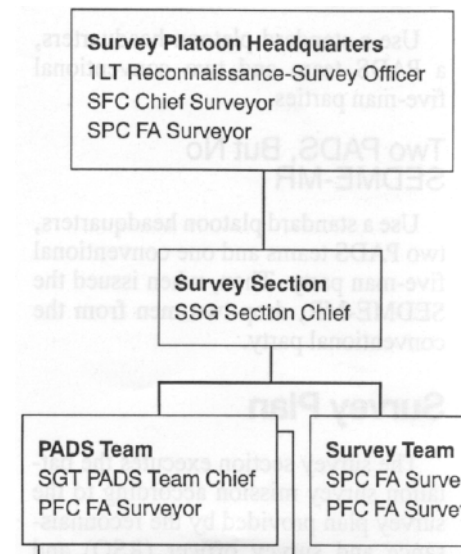

Figure 1: Survey Platoon Personnel and Organization
The survey platoon in a 3x8 Field Artillery battalion is assigned to the headquarters battery. Its mission is to provide survey support to each firing platoon of each gun battery and to target acquisition (TA) assets, such as an attached Firefinder radar section. Figure 1 shows the duty positions and the organization of the survey platoon.